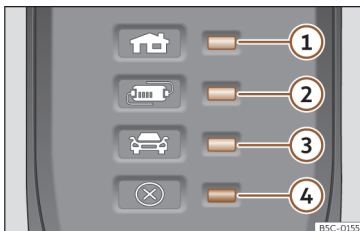

Fig. 61 On the charging cable for power sockets: Indicator lamps on the protection device.
>>> **Fig. 61:**
The electronic protection device >>> **Fig. 61** ensures that the charging connector does not receive current until it is plugged in to the vehicle's charging connector.
One or more control lamps >>> **Fig. 61** ①, ② or ③ light up green.
Display >>> Fig. 61	Meaning
①, ④ flashing	The housing connector has overheated.
②, ④ flashing	The protection device has overheated.
If the charging process continues with a lower current, both the operating indicator and the warning lamp >>> Fig. 61 ④ flash red.
- If it disconnects again, or the charging current reduces and the cause does not seem to be exposure to an external heat source, make sure that the green control lamp is flashing >>> Fig. 61. Visit a specialised CUPRA dealer or any SEAT network dealer to check the charging cable. Get an establishment that specialises in electrical installations to check the infrastructure connection.
If the red warning light ④ flashes or turns on without one of the indicator lamps >>> Fig. 61 ①, ② or ③ also turning on continuously on the status indicator, there is a fault.